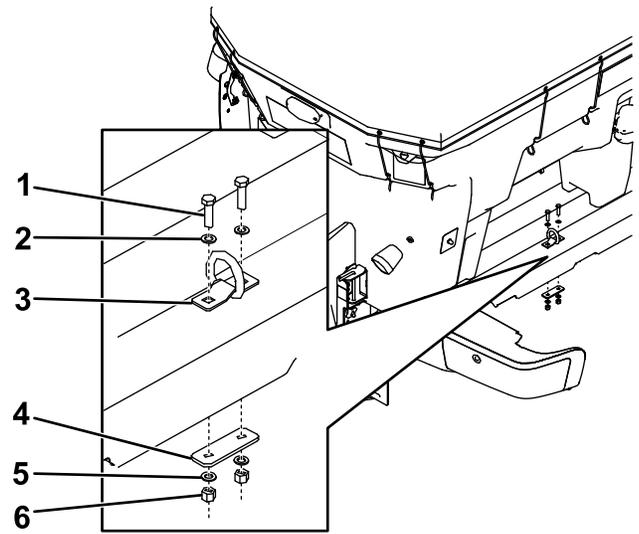

Figure 8
2. Install the D-rings as shown in Figure 8 and torque the bolts to 28 N·m (19.7 ft-lb).